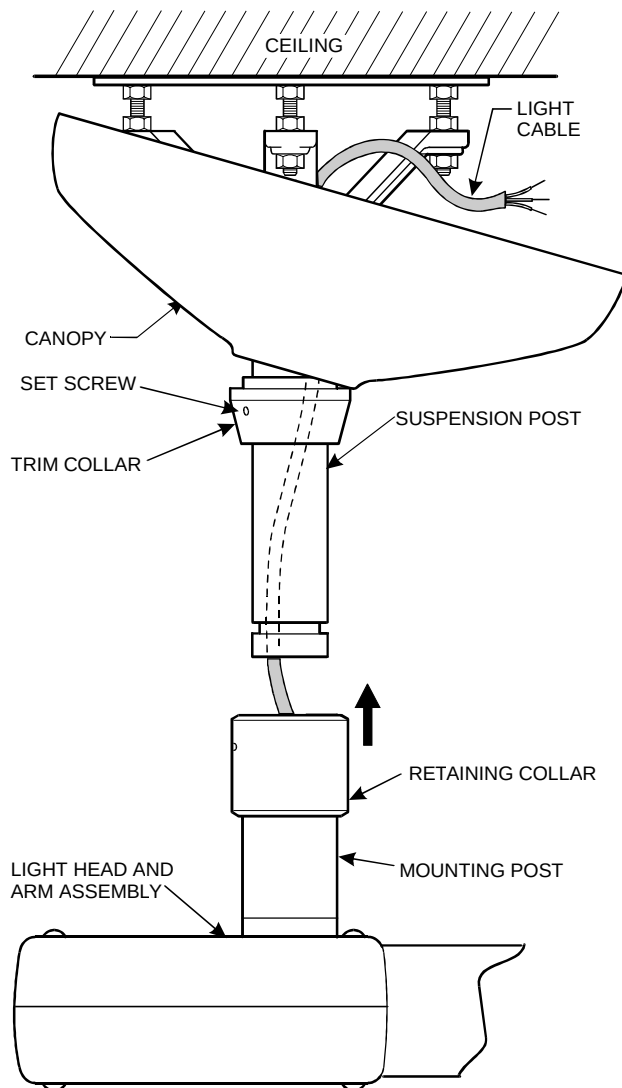

Figure 4
1. Slide the canopy part way up the suspension tube and use the trim collar and set screws to hold it into place. Leave enough space between the canopy and ceiling to access the junction box (See Figure 4).
2. Slide the retaining collar onto the light cable and down on the mounting post (See Figure 4).